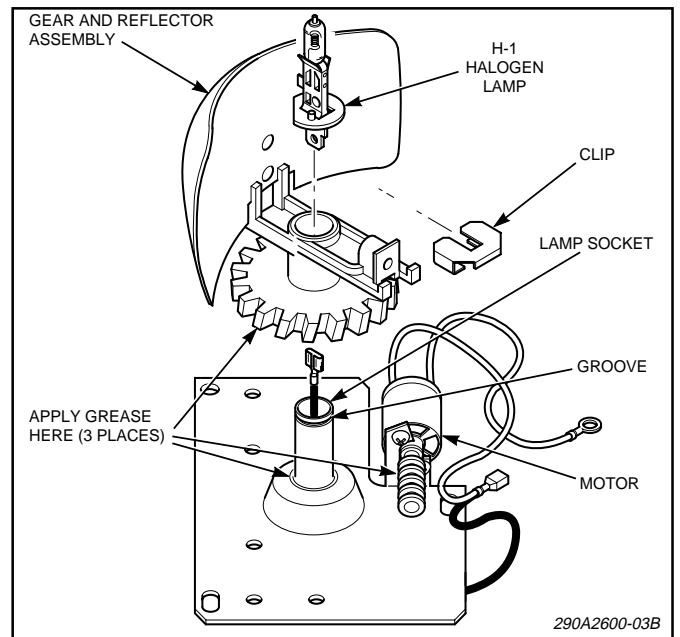

Figure 6.
All gears should be greased at least twice a year. Use medium consistency Dow Corning DC33 or equivalent type grease. Proceed as follows (see figure 6):
2. Lift-off reflector and worm gear. Lubricate with grease as shown in figure 6.